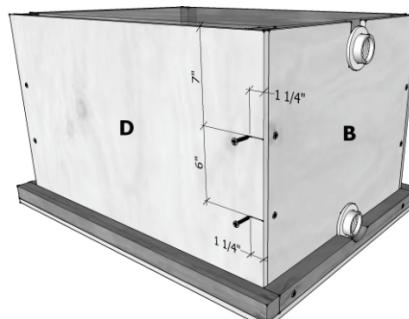

Fig. 6 – Liner and final panel are fastened to rest of sides, screws placed 1 1/4" from edge.
- b. **Using 4) 1 5/8" screws, fasten** panel/liner assembly from last step **very carefully.** (i.e. don't screw through or pinch the liner) (fig. 6)